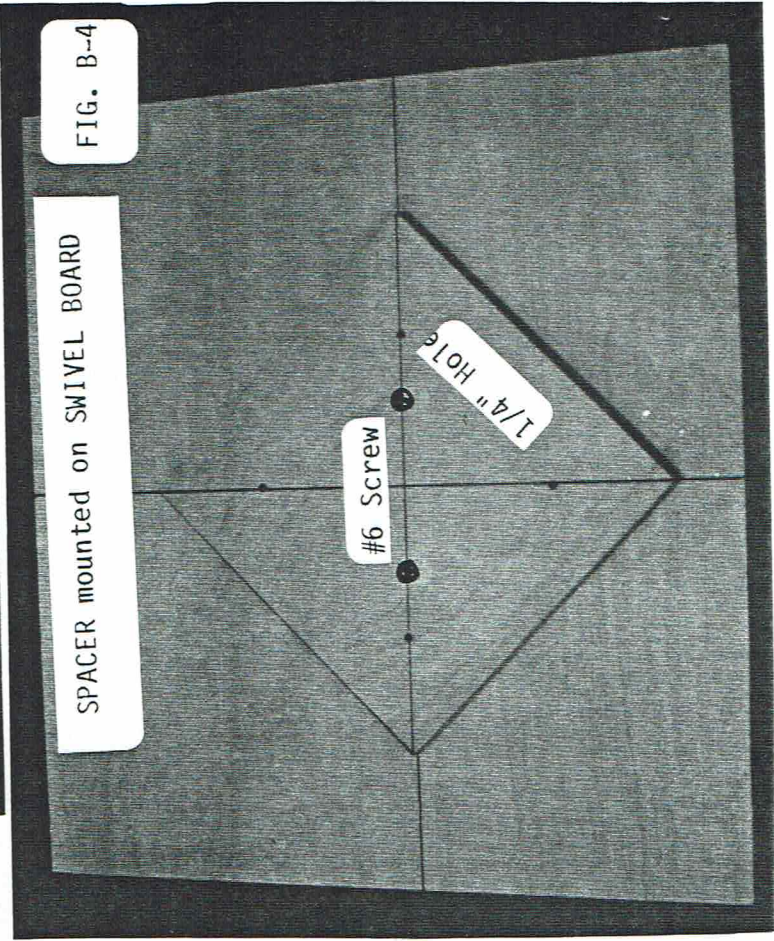

FIG. B-4
- 2.2 SPACER (Fig. B-4) - Draw diagonal lines on the 12" x 12" x 1/2" plywood SPACER. Drill two 1/8" clearance holes on one of the diagonals, 2 1/2" from the center of the board.
- 2.3 SWIVEL BOARD (Fig. B-4) - The SWIVEL BOARD is 26" square. Center the SPACER on top of the SWIVEL BOARD. Drill two 3/32" starter holes through the SWIVEL BOARD, using the two 1/8" holes in the SPACER as guides. Use two #6 x 1" wood screws (B12) to attach the SPACER to the SWIVEL BOARD.